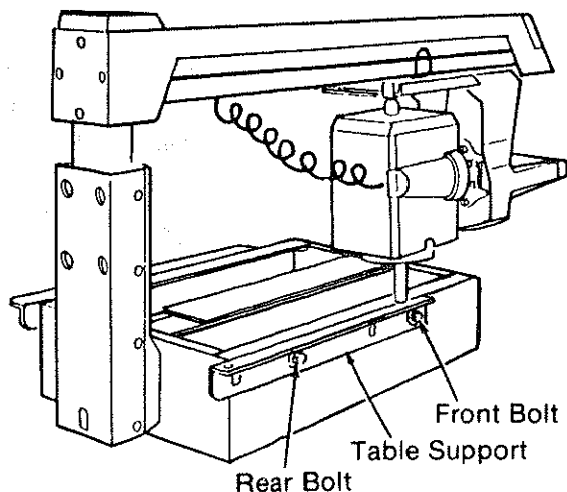

Fig. 39
13. Move the *arm* and *motor* until the *arbor shaft* is over the front bolt on the left *table support*. Do not change the elevation of the *arm* as you move from point to point. (Figure 39)